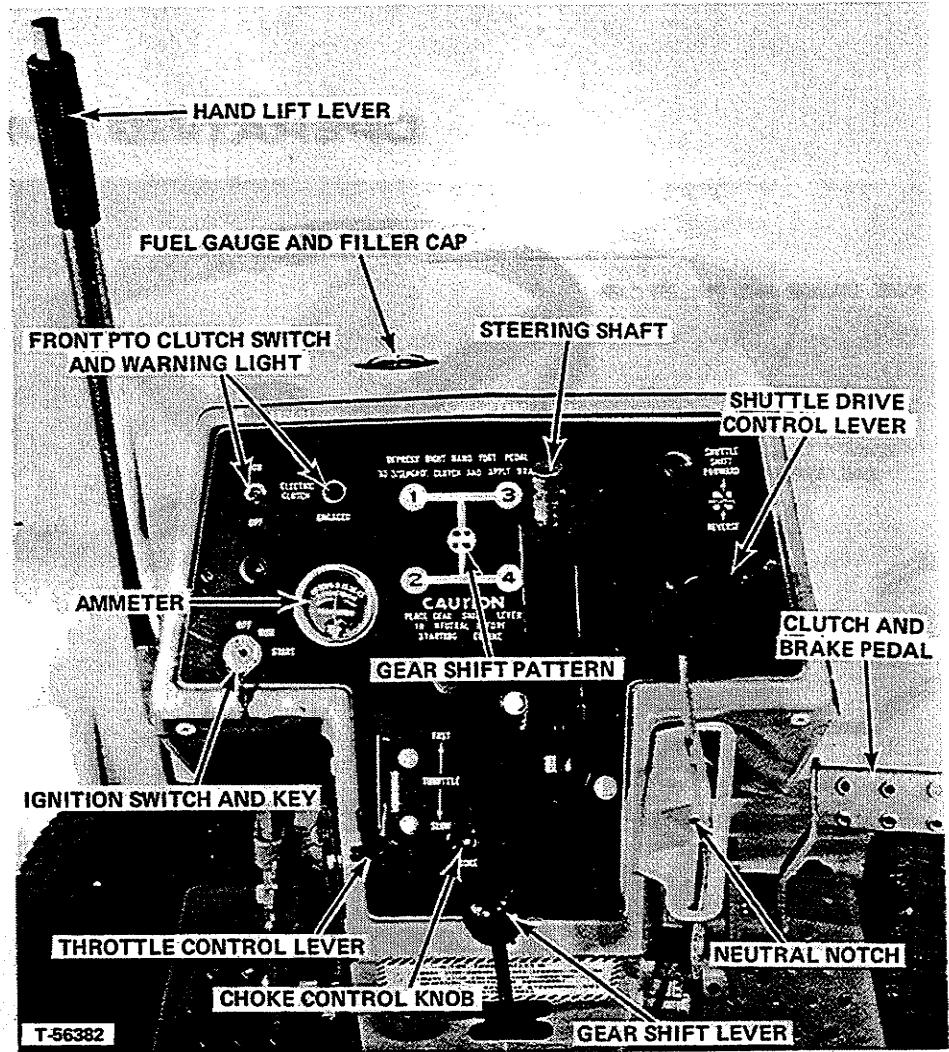

FIGURE 2 - Controls - Shuttle Clutch Tractors (Steering Wheel Removed)
7. CLUTCH AND BRAKE PEDAL (Figure 2)
9. HAND LIFT LEVER (Figure 2)
1. GEAR SHIFT LEVER (Figure 2)
2. SHUTTLE DRIVE CONTROL LEVER (Figure 2)